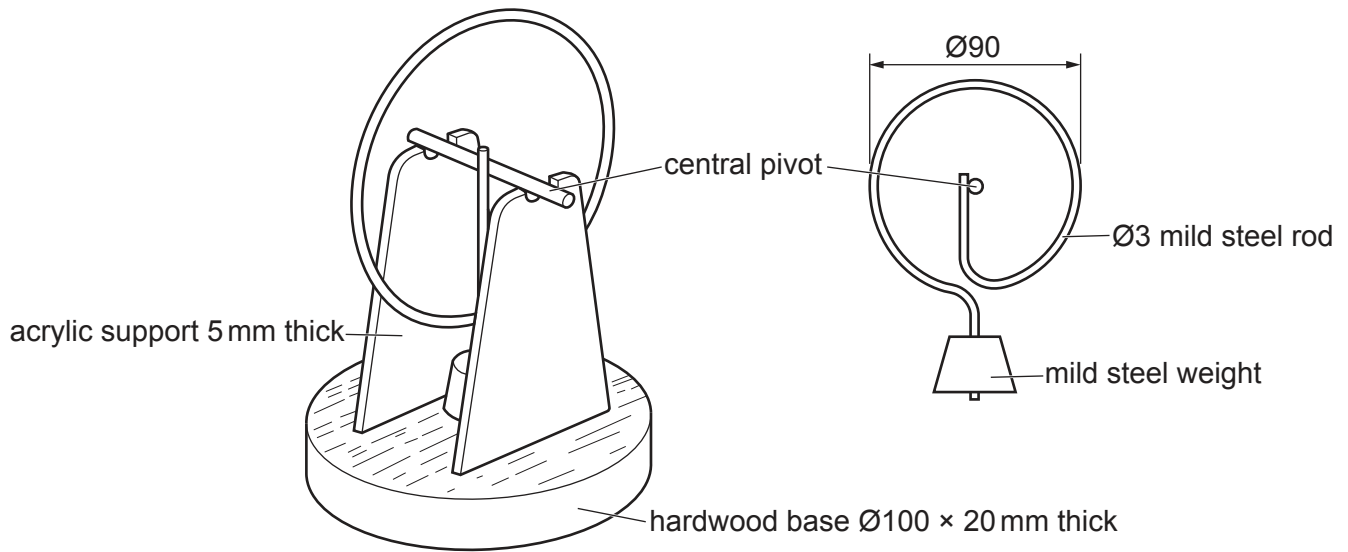

Fig. 12.1
- 12 Fig. 12.1 shows details of a desktop toy. The suspended weight can be made to swing forwards and backwards around a central pivot.